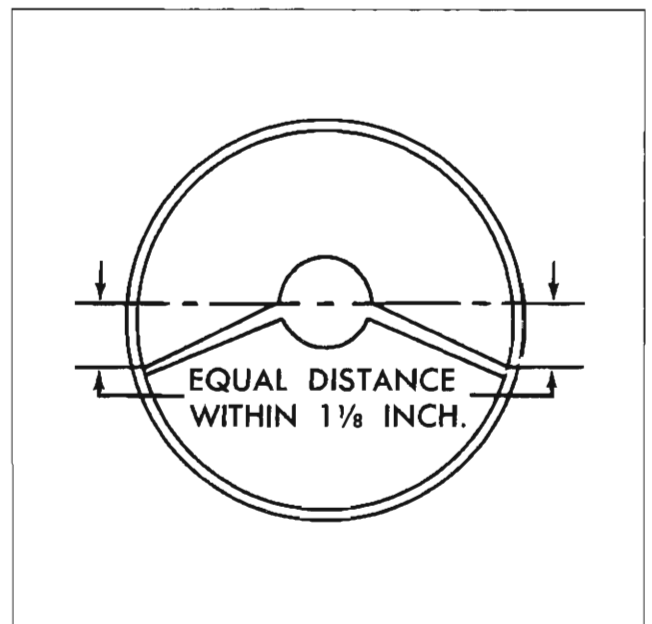

Fig. 13—Wheel Alignment
2. Also align the steering wheel by placing the wheels in a straight ahead position, then measure the distance of each spoke to the horizontal center-line of the steering wheel. This measurement should be equal within 1 1/8 inch (fig. 13).